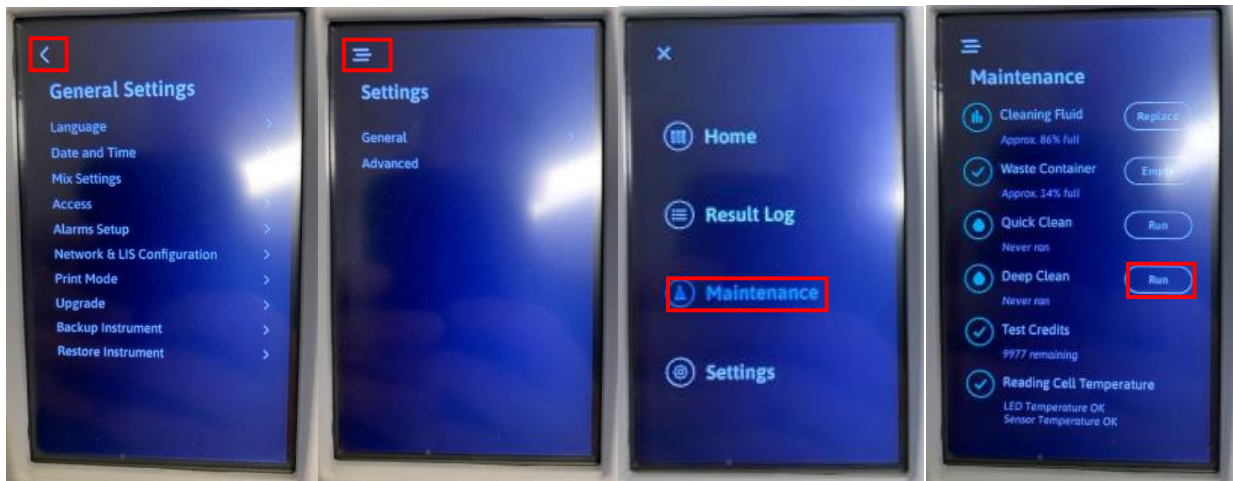

Figure 48
10.7. Select back arrow, Menu button, Maintenance and “Run” for Deep Clean to perform deep wash of the unit, follow instructions on the screen. Figure 48.